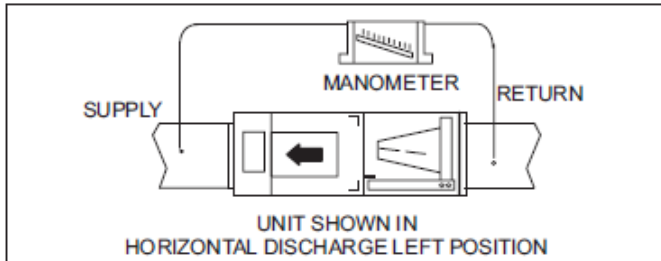

FIGURE 9. Static Pressure Test
- 1 - Measure tap locations as shown in figure 9.